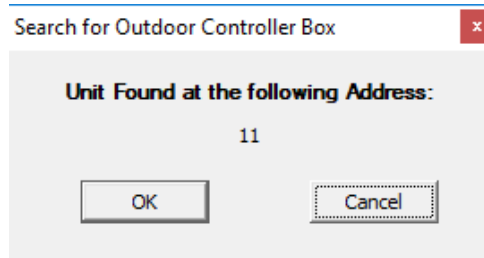

Figure 34: Dialog Window, Search for Outdoor Controller Box
Enter the global address (255) in the Amplifier Address field, and click on the [Search for Unit] button. The utility will locate the unit on the network. See Figure 34. Click on the [OK] button.